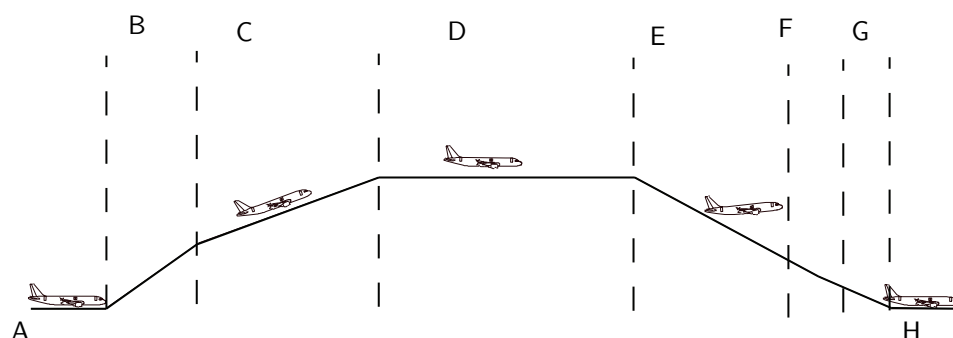

Figure 2.1: Phases in a flight.
- (b) According to Figure 2.1, state the main phases of a flight. [0.1 pt]
- (d) How the different levels of Air Traffic Management affect a typical flight such the one in Figure 2.1? [0.2 pt]
- (e) Throughout which volumes of responsibility does an aircraft overflies during a flight such the one in Figure 2.1? [0.2 pt]
- (f) What kind of Air Transit Services must be provided according to the different phases of a typical flight such the one in Figure 2.1? [0.2 pt]